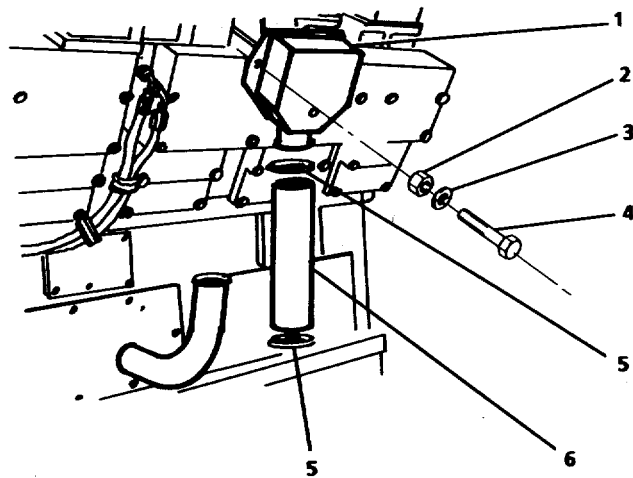

FIGURE 2-53. *Crankcase Breather.*
- (7) Loosen two hose clamps (5, FIG. 2-53) on crankcase breathe hose (6). Remove hose.
- (8) Remove four capscrews (4), lockwashers (3), and flat washers (2).
- (9) Remove crankcase breather (1).
- (11) Position crankcase breather (1, FIG. 2-53). Install two flat washers (2), lockwashers (3) and capscrews (4). Tighten to 30 ft-lb (40 N•m).